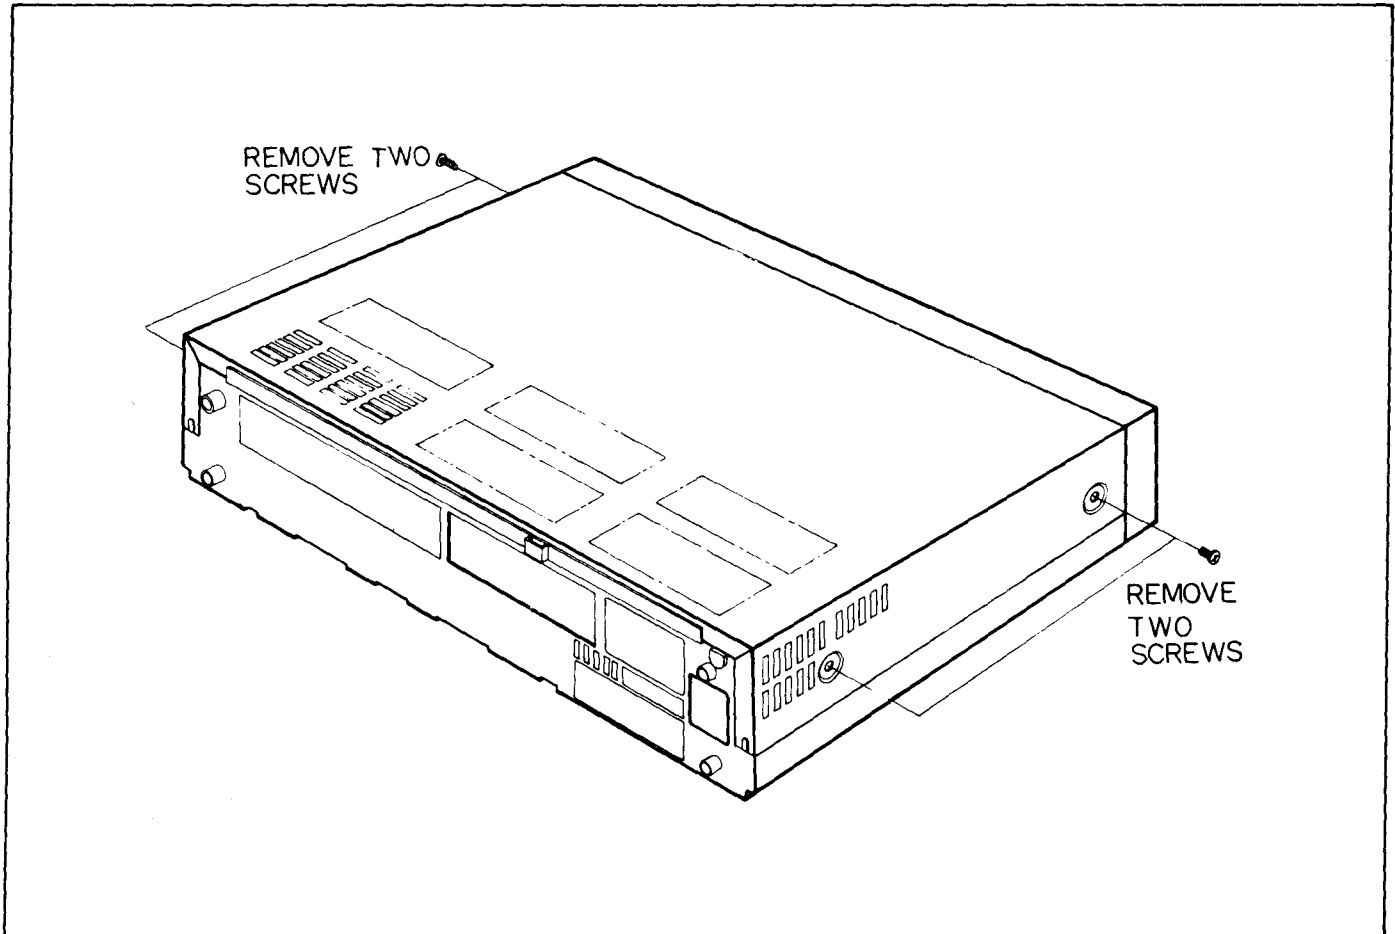

Fig. 1 Top Cabinet Removal
2-1-1. Top Cabinet Removal (Fig. 1)
1. Remove the top cabinet and the bottom cover. (See Figs. 1, 2).
2. Remove three (3) screws from the top of the front panel.
3. Release one (1) tabs from the bottom of the front panel.